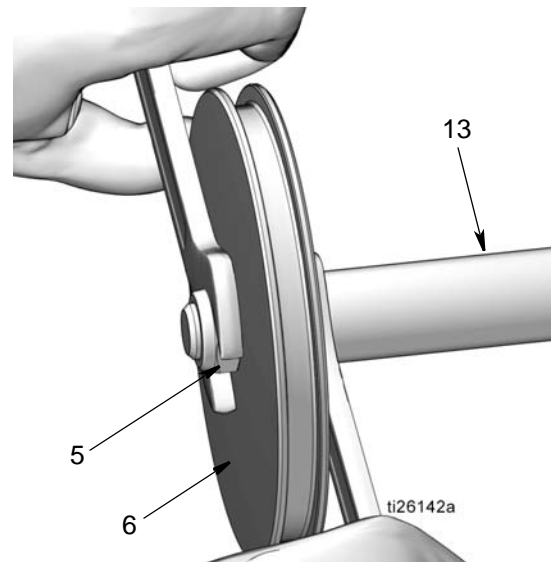

FIG. 48
- Install nut (5) over the end of the piston rod (13). Use two wrenches, working in opposite directions to tighten the nut. Secure one open end wrench to flats of piston rod and use the second wrench to tighten the nut (5) as shown in FIG. 48.